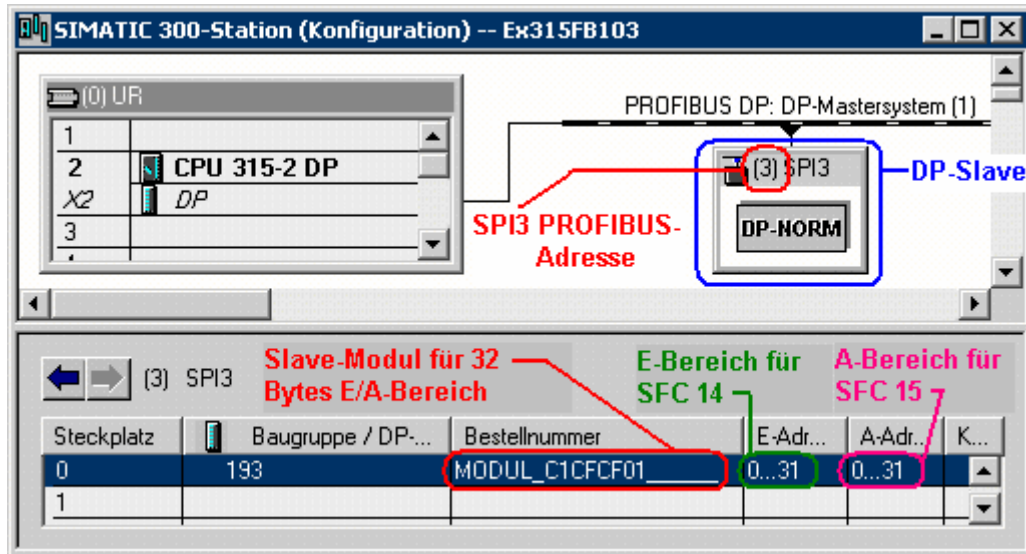

Fig. 3: Hardware configuration of the SPI3
- d. Now open the SPI 3 subdirectory, select **MODUL_C1CFCF01_____** (for sending and receiving 32 bytes), drag it to the first entry in the rack and drop it there (see Fig. 3).